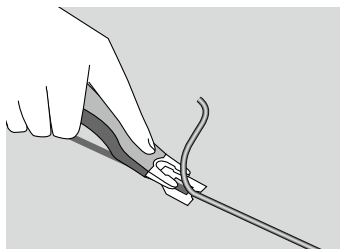

Fig 1. Trimmer guide under blade
**1st pass:** Rough trim by placing the trimmer guide under the MOZART cutter blade (fig 1)